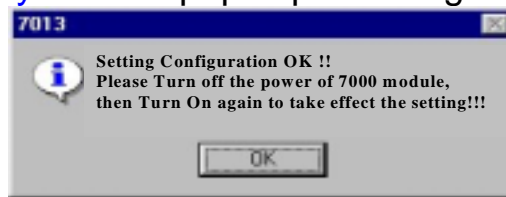

Figure 2-6-2. Setting Configuration OK!!
- Then the 7000 Utility window pops up as in Figure 2-6-2.